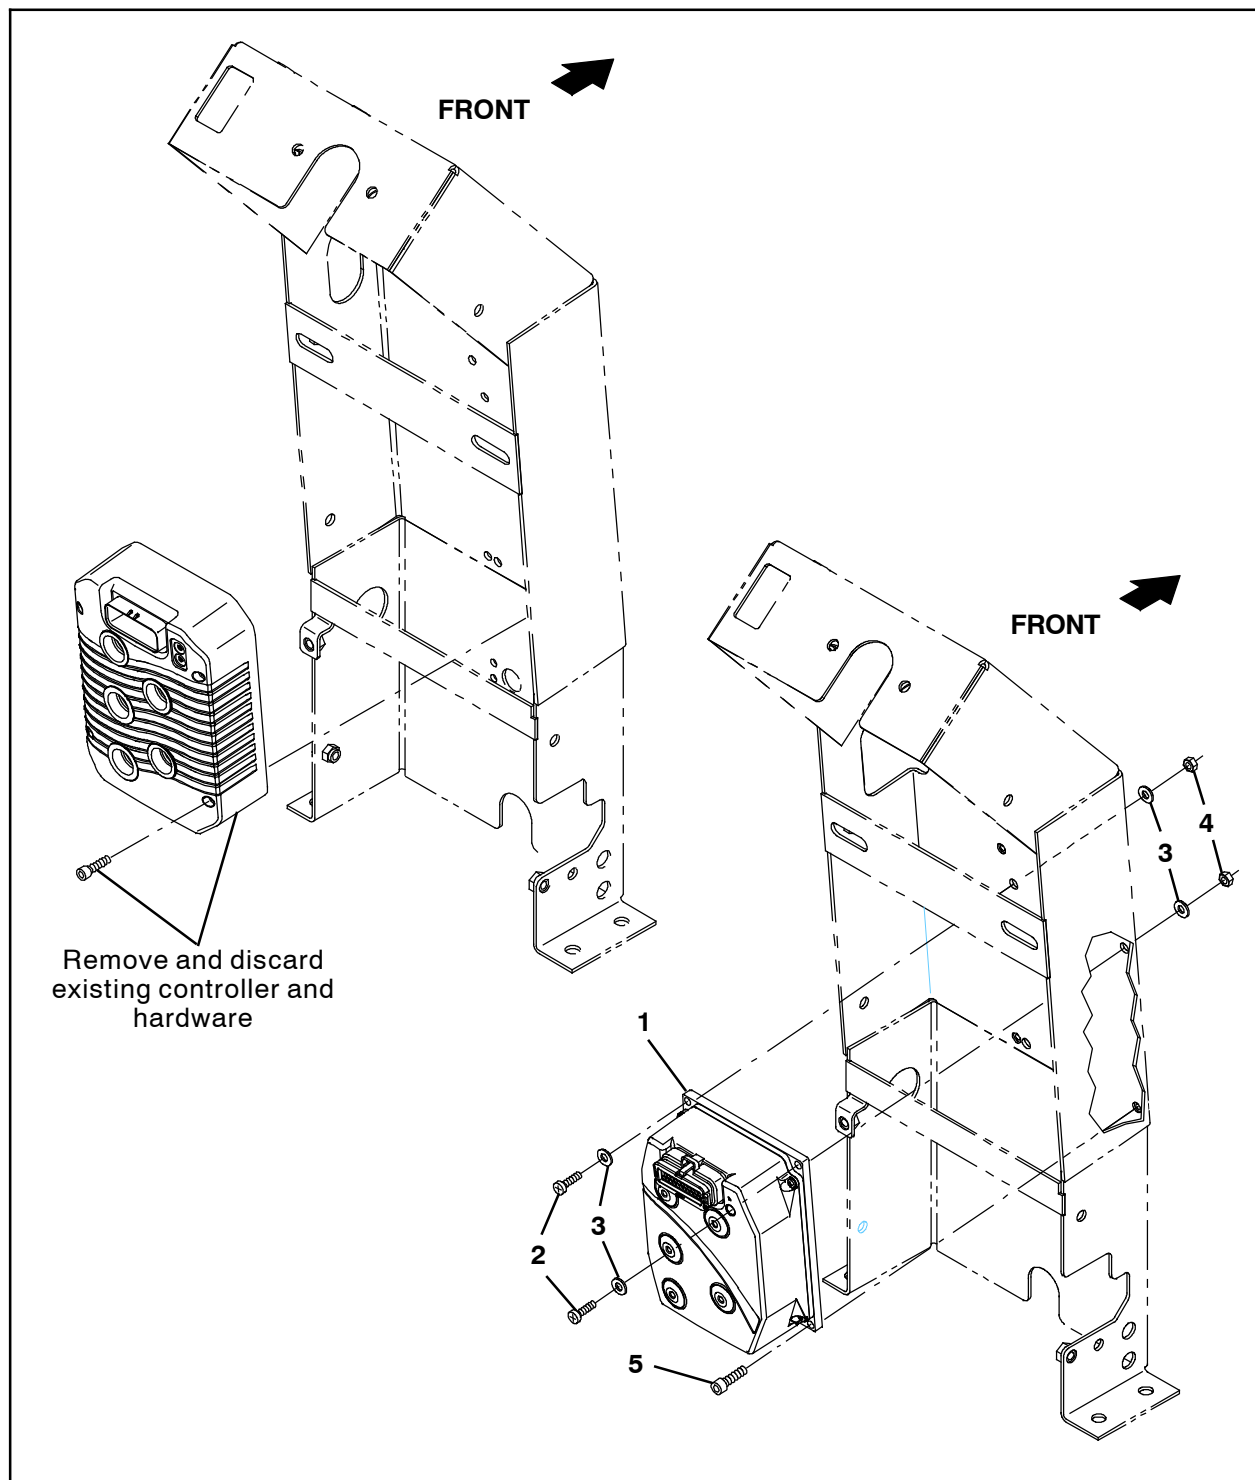

FIG. 11
11. Disconnect the main wire harness from the controller and remove the controller from the machine. Discard the removed controller and hardware. (Fig. 11)
12. Use two M5 pan screws (2), four flat washers (3), two M5 hex nuts (4), and one M6 socket screw (5) to install the new controller (1) onto the machine. (Fig.11)